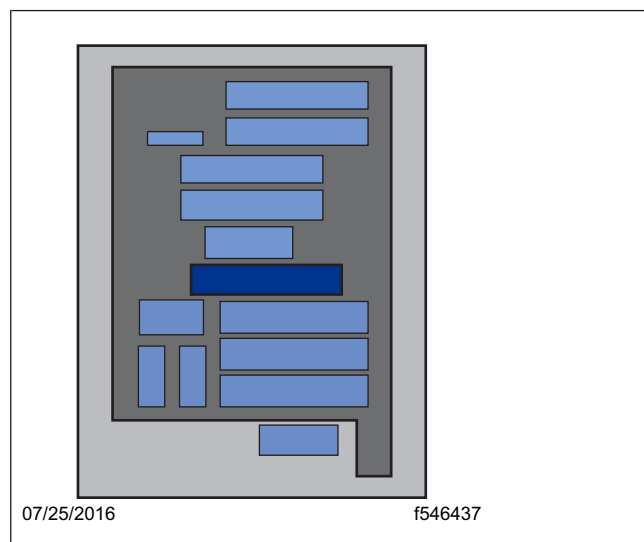
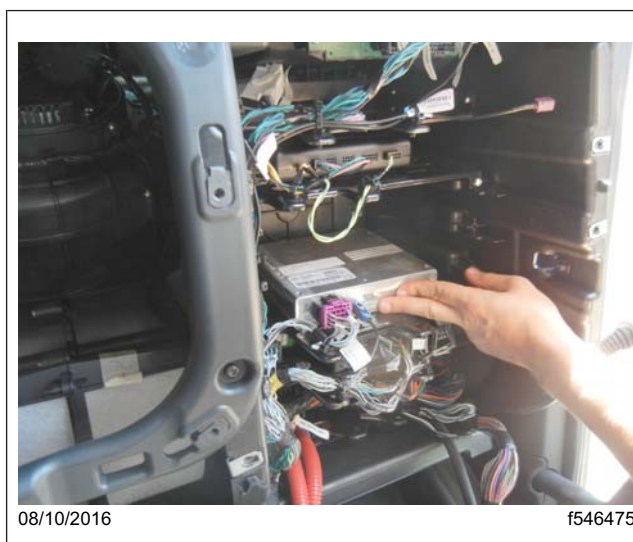

Fig. 1, IPPC ECU Location (schematic)
Fig. 2, Installing the IPPC ECU
6. Position the new integrated predictive powertrain control (IPPC) ECU (000 446 41 75) in the electronics bay, as shown in **Fig. 1**, then press the ECU firmly towards the back of the shelf. See **Fig. 2**.